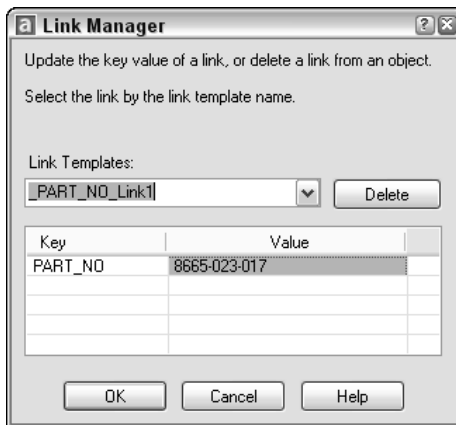

Figure 20-11: The Link Manager enables you to edit key value data for its linked object.
1. Choose dbConnect ⇨ Links ⇨ Link Manager to open the Link Manager, shown in Figure 20-11. You can also select a linked object, right-click in the drawing area and choose Link ⇨ Link Manager.